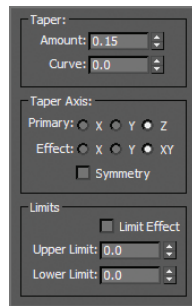

FIGURE 4.14
5. Change Amount to 0.15, as shown in Figure 4.14. Press Enter on the keyboard to set the amount.